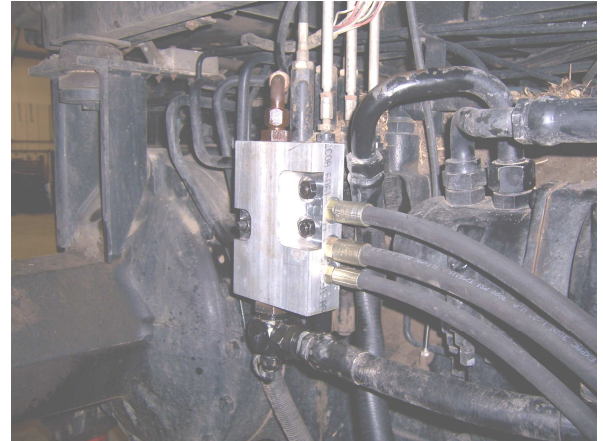

Fig 1-1
2. First remove old valve block from tractor and then attach valve block kit (Part #2) using existing nuts and o-rings to tractor. **See in Fig. 1-1.** Also, see instruction Sheet (677840) attached with that kit.